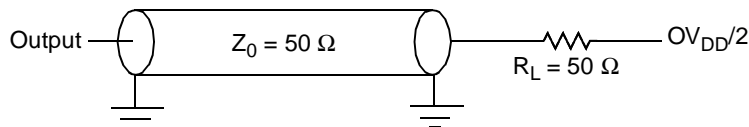

Figure 25. AC Test Load for the JTAG Interface
- All outputs are measured from the midpoint voltage of the falling/rising edge of t_{CLK} to the midpoint of the signal in question. The output timings are measured at the pins. All output timings assume a purely resistive 50 Ω load (see Figure 25). Time-of-flight delays must be added for trace lengths, vias, and connectors in the system.
- The symbols for timing specifications follow the pattern of $t_{\text{(first two letters of functional block)(signal)(state)(reference)(state)}}$ for inputs and $t_{\text{(first two letters of functional block)(reference)(state)(signal)(state)}}$ for outputs. For example, $t_{\text{JTDV KH}}$ symbolizes JTAG device timing (JT) with respect to the time data input signals (D) reaching the valid state (V) relative to the t_{JTG} clock reference (K) going to the high (H) state or setup time. Also, $t_{\text{JTDX KH}}$ symbolizes JTAG timing (JT) with respect to the time data input signals (D) went invalid (X) relative to the t_{JTG} clock reference (K) going to the high (H) state. In general, the clock reference symbol is based on three letters representing the clock of a particular function. For rise and fall times, the latter convention is used with the appropriate letter: R (rise) or F (fall).
Figure 25 provides the AC test load for TDO and the boundary-scan outputs of the MPC8349EA.